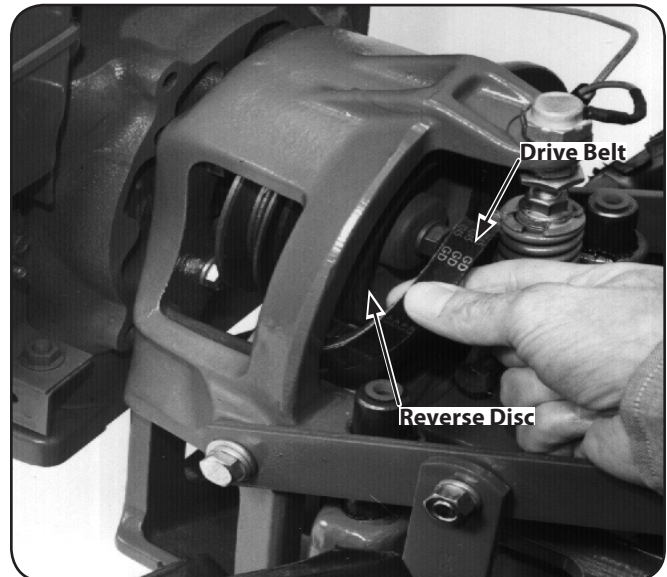

Figure 7-3
5. Lift the top half of the belt up and over the upper pulley and the rubber reverse disc, moving it in front of the reverse disc. See Figure 7-3.